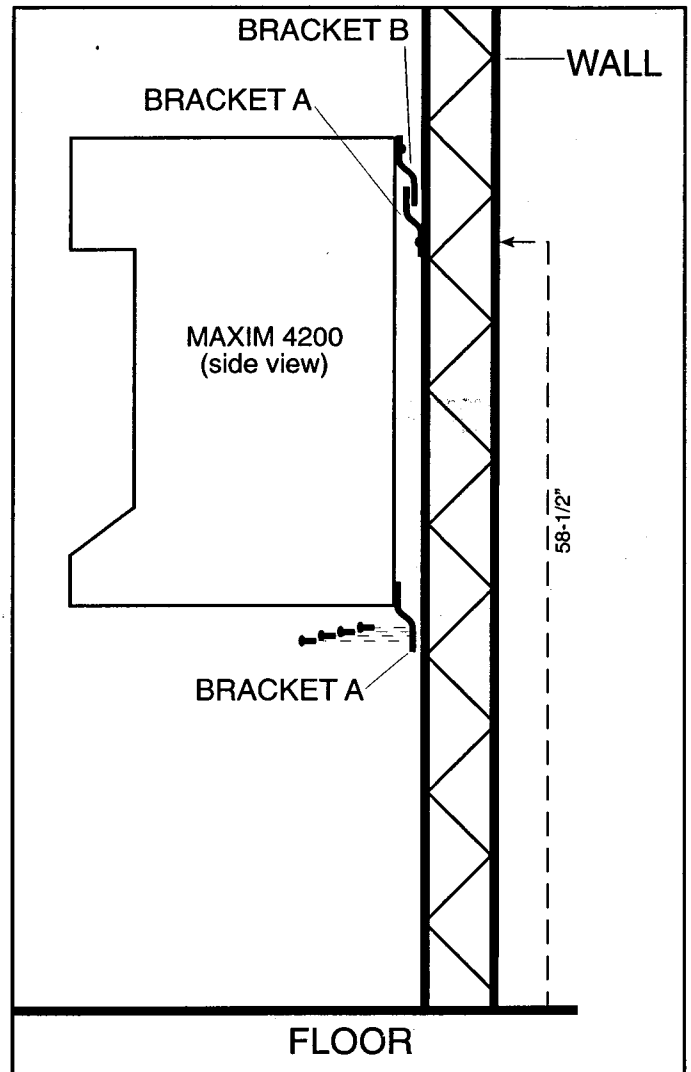

Figure 3
5. Lift the Maxim up and onto the wall bracket so that the top Maxim™ bracket (B) and wall bracket (A) interlock. (Figure 3)